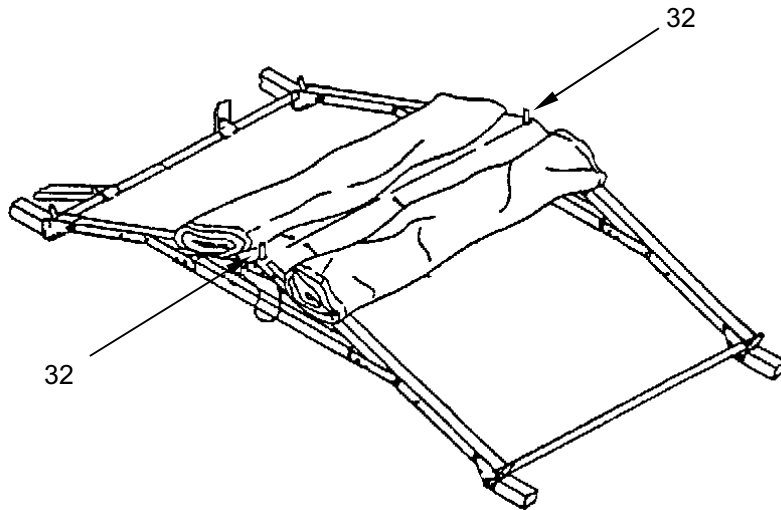

Figure 14. Place the Large Spindle Grommets Over Ridge Spindles.
4. Place the large spindle grommets over ridge spindles (**Figure 14, Item 32**).